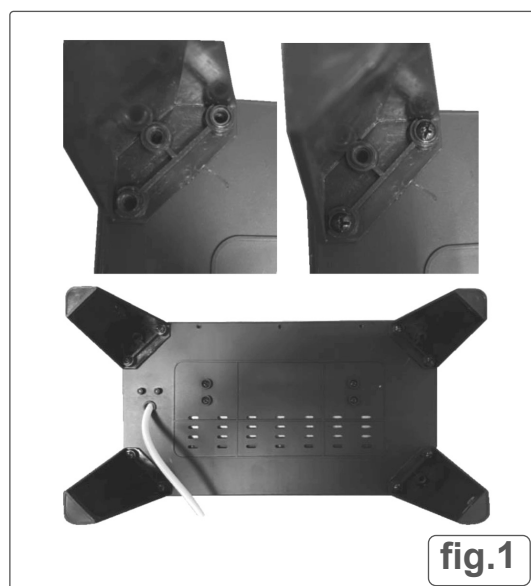

fig.1
- To begin assembly, place the heater upside down on a soft surface such as a cloth, rug, or carpet to avoid scratching or damaging it. Then position one foot so that its holes line up with the corresponding holes in the base of the heater. Secure it in place using the supplied screws and tighten them with the screwdriver. Repeat the same process for the other feet. Fig.1